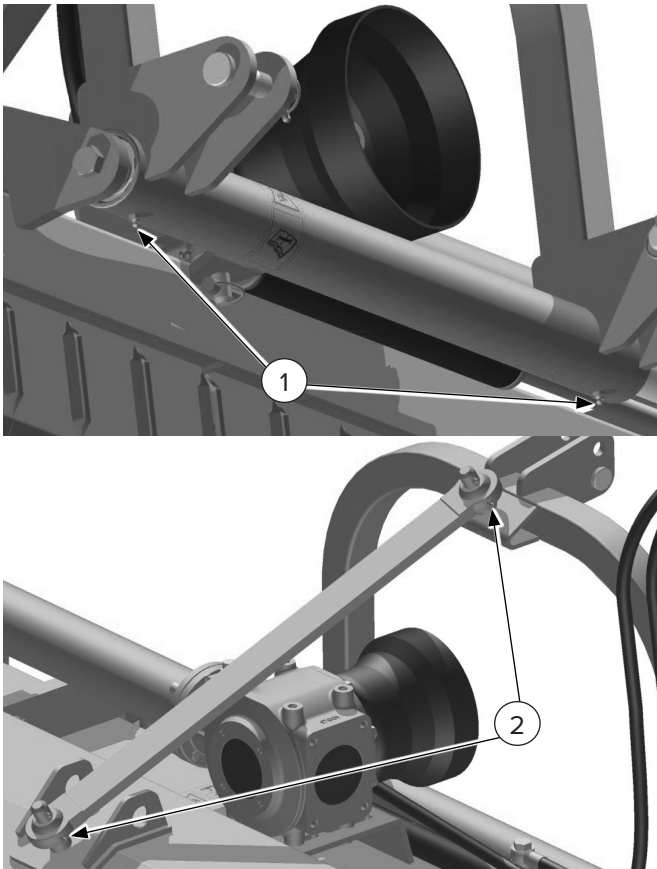

Figure 13
2. Inject grease into the zerks located on the lower part of the shifting tube of the hitch [Figure 13, Item 1].